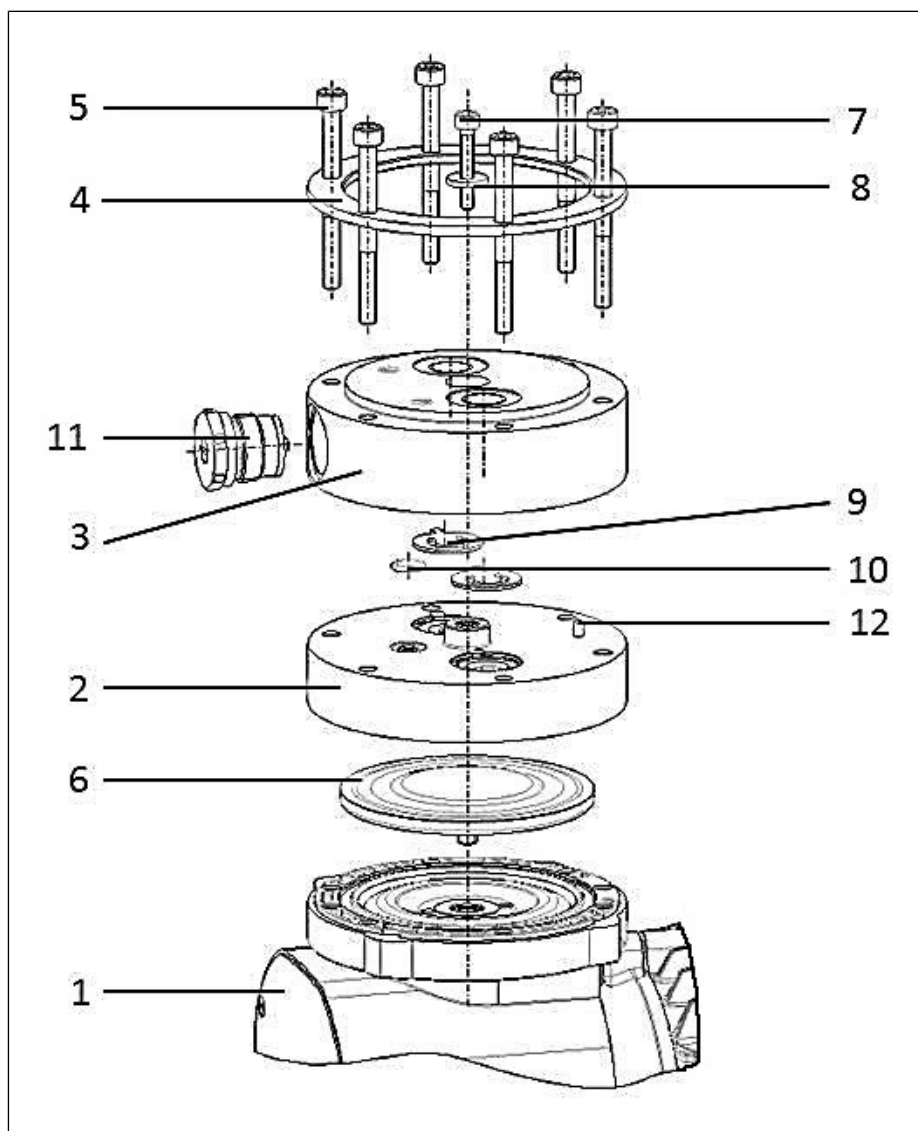

Fig.13 Pump parts N922FT.29E EX
**According to Fig. 13
The item numbers within the following work instruction refer to Fig. 13.